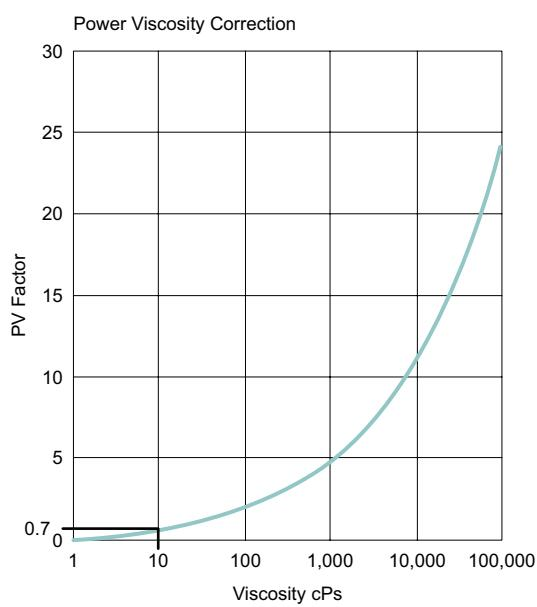

Fig. 7.6.3g
- Using the Power Viscosity Correction curve (Fig. 7.6.3g), starting at the duty viscosity of 10 cPs, draw a line parallel to the y-axis, until it intersects the curve